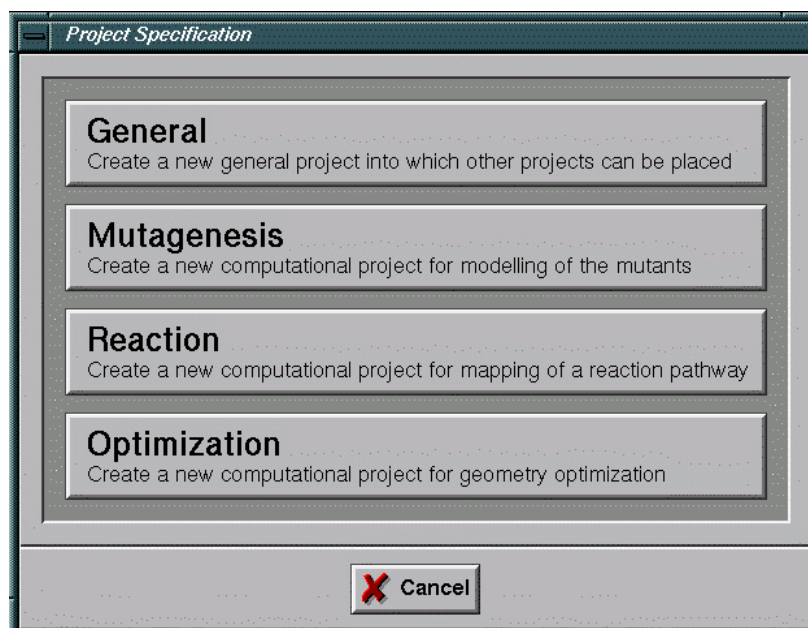
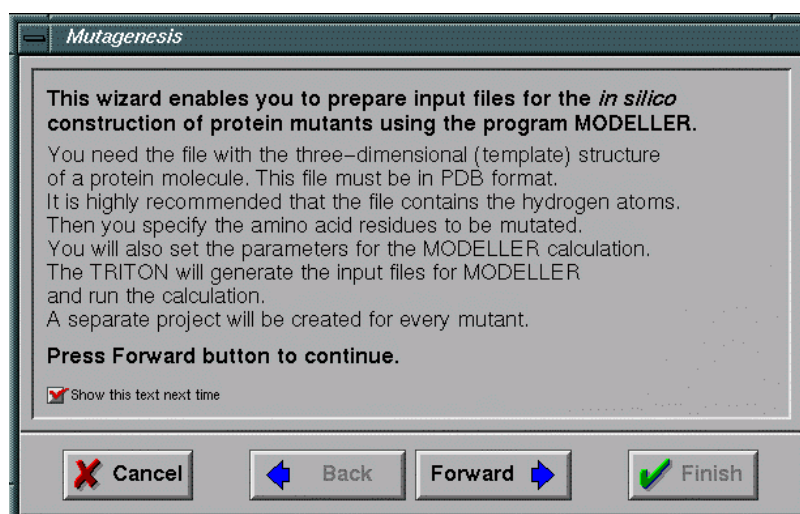

Fig 12.3 Window for specification of projects
Fig 12.4 Window with introduction to mutagenesis project
- 3) Press the *Mutagenesis* button in *Project Specification* window (**Fig 12.3**). This will open the Mutagenesis wizard and the introduction to this type of project will appear (**Fig 12.4**).